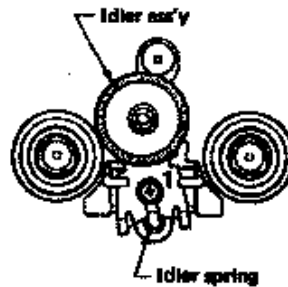

Fig. 6
- Remove screw ① and Idler spring in fig. 6, and replace the idler ass'y.